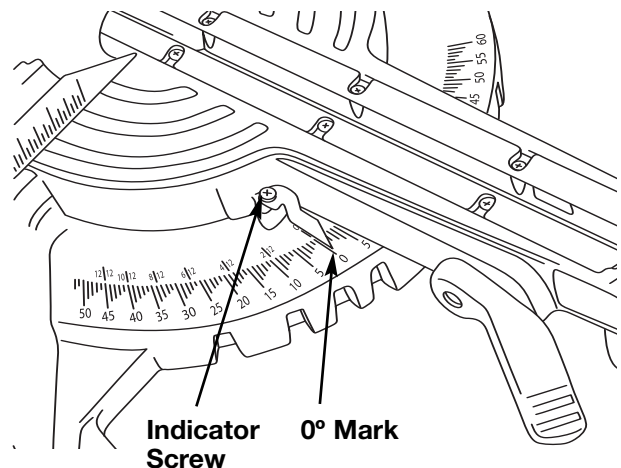

Figure 15.
3. Loosen the Phillips screw that holds the indicator in place (Figure 15).